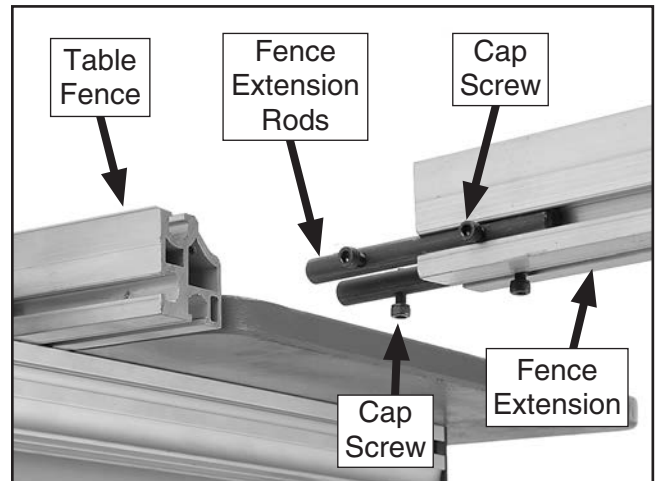

Figure 12. Fence extension rods and cap screws (shown from right rear of table).
4. Loosen the cap screws on the fence extension rods, slide the rods out about half their length (see **Figure 12**), then tighten two of the screws to secure the rods to the extension.